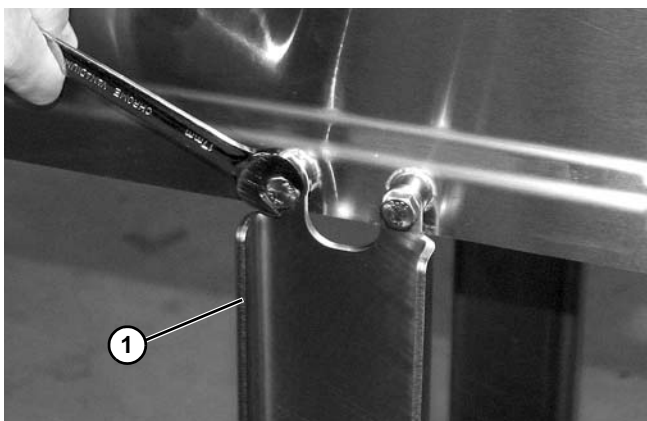

Figure 15
2. Attach the stands (**Figure 15, item 1**) to the frame. Tighten screws to 28-32 Nm (20-24 ft-lbs).